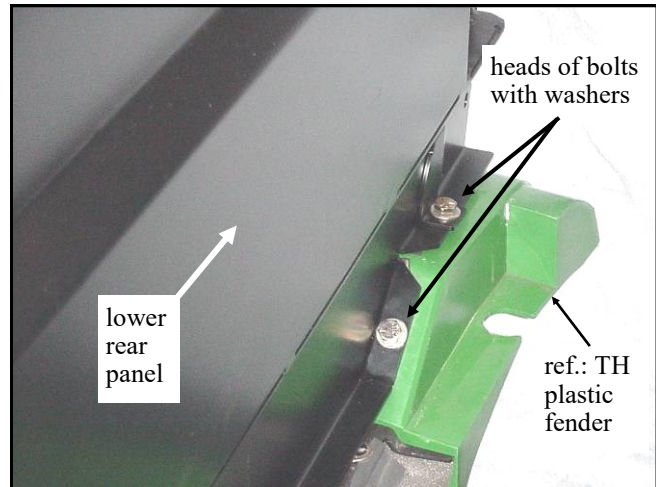

Fig. 8.1
8.1 With assistance, install the lower rear panel on top of the rear mount tabs (or on top of the plastic fenders on the TH model only). Orient the lower rear panel so that the bolt holes are facing the back of the vehicle and the foam headliner is facing forwards. See figure 8.1.
8.3 **MODEL TH ONLY:** drill four 13/32" diameter holes through the plastic fender (two per side). Ref.: see figure 8.1.
8.4 Attach the lower rear panel to the rear mount tabs using a total of four 3/8 x 1" long hex head bolts, eight steel washers, and four locknuts. The heads of the bolts are to be up top and the locknuts underneath. See figure 8.1.